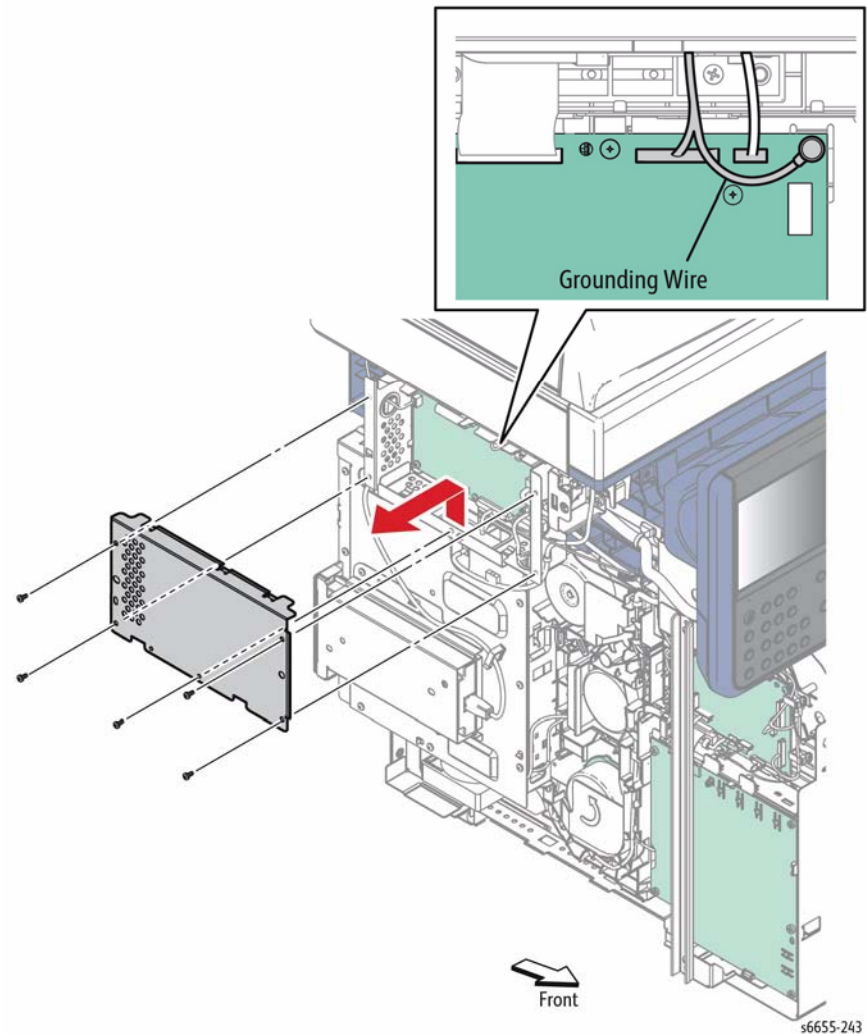

Figure 3 Remove the IIT MCU Plate and Disconnect the Scanner Connectors
7. Refer to Figure 3 to locate and disconnect the connectors (P/J451, P/J452, P/J453, P/J454) from the IIT MCU Board. After disconnecting P/J454, feed the harness out of the IIT MCU Box.
8. Refer to Figure 3 to locate and remove one screw (silver, 6 mm) attaching the ground wire to the IIT MCU Board, and remove the ground wire.